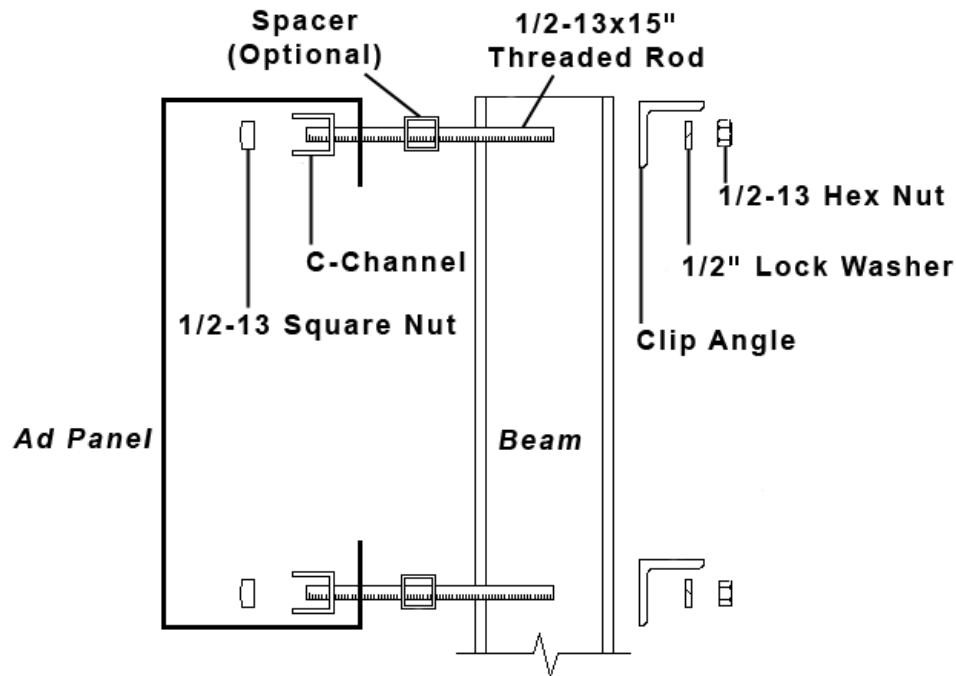

Figure 9: Ad Panel Mounting with C-channel, Side View
The installation uses C-channels; clip angles; 1/2-13" threaded rods; and 1/2" square nuts, hex nuts, lock washers, and optional spacers. Refer to **Figure 9** and **Drawing A-52187** in **Appendix A**.
3. Position the C-channel *inside* the ad panel cabinet along the upper and lower rear flanges as shown in **Figure 9**.